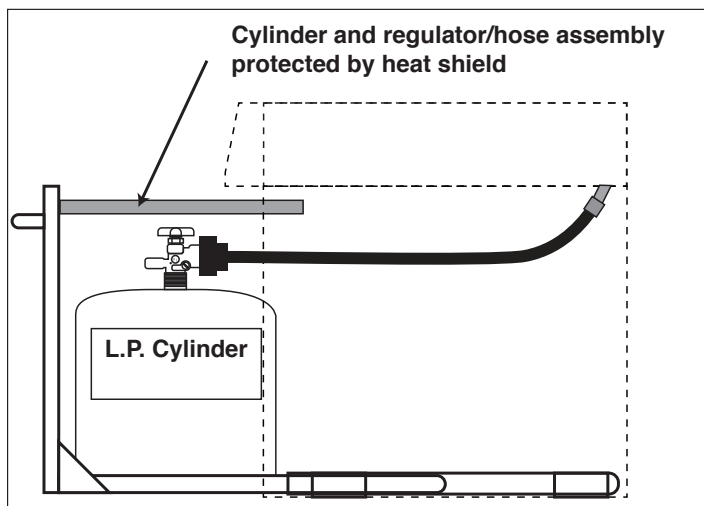

Fig. 3 Optional door with propane tank tray
- Many dealers offer propane tank door with tank tray models and a propane tank heatshield that rests directly on the tank to meet the cylinder install requirements. Propane tank door with tank tray shown in Fig. 3. Contact your dealer for ordering information.